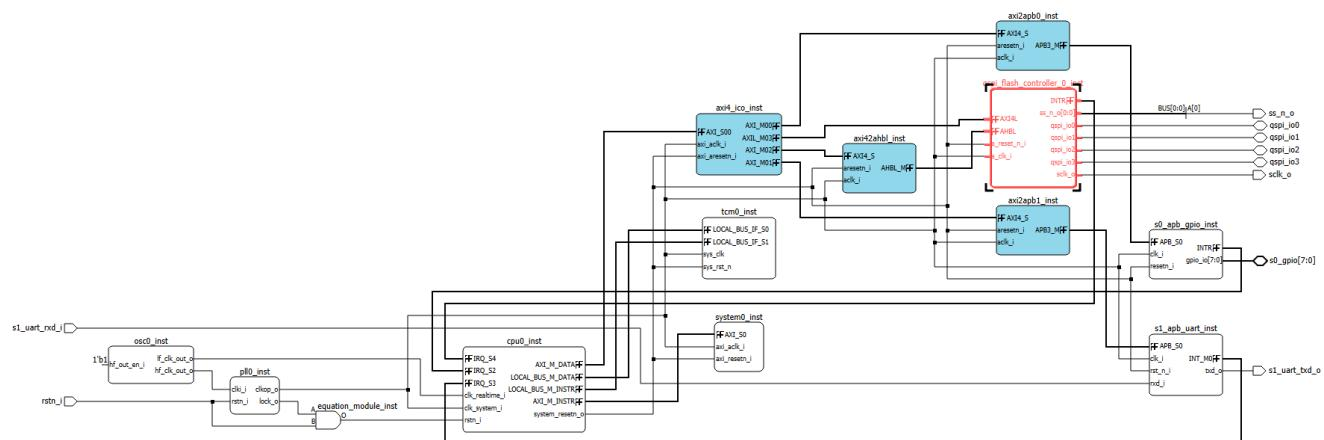

Figure 6.1. OSPI Flash Controller IP Example Design in SoC Project
Figure 6.1 shows how the QSPI Flash Controller IP is instantiated on the template. The AXI4-L interface is connected directly to the AXI4 system bus while the AHB-L interface is connected to the AXI4 system bus through a AXI4 to AHB-L bridge. The SPI interface ports are ported out as top-level ports. The input clock and reset are connected to the PLL output clock and system reset, respectively.
6. Connect the instantiated IP to the system (refer to Figure 6.1). Modify the system component settings from default as follows: